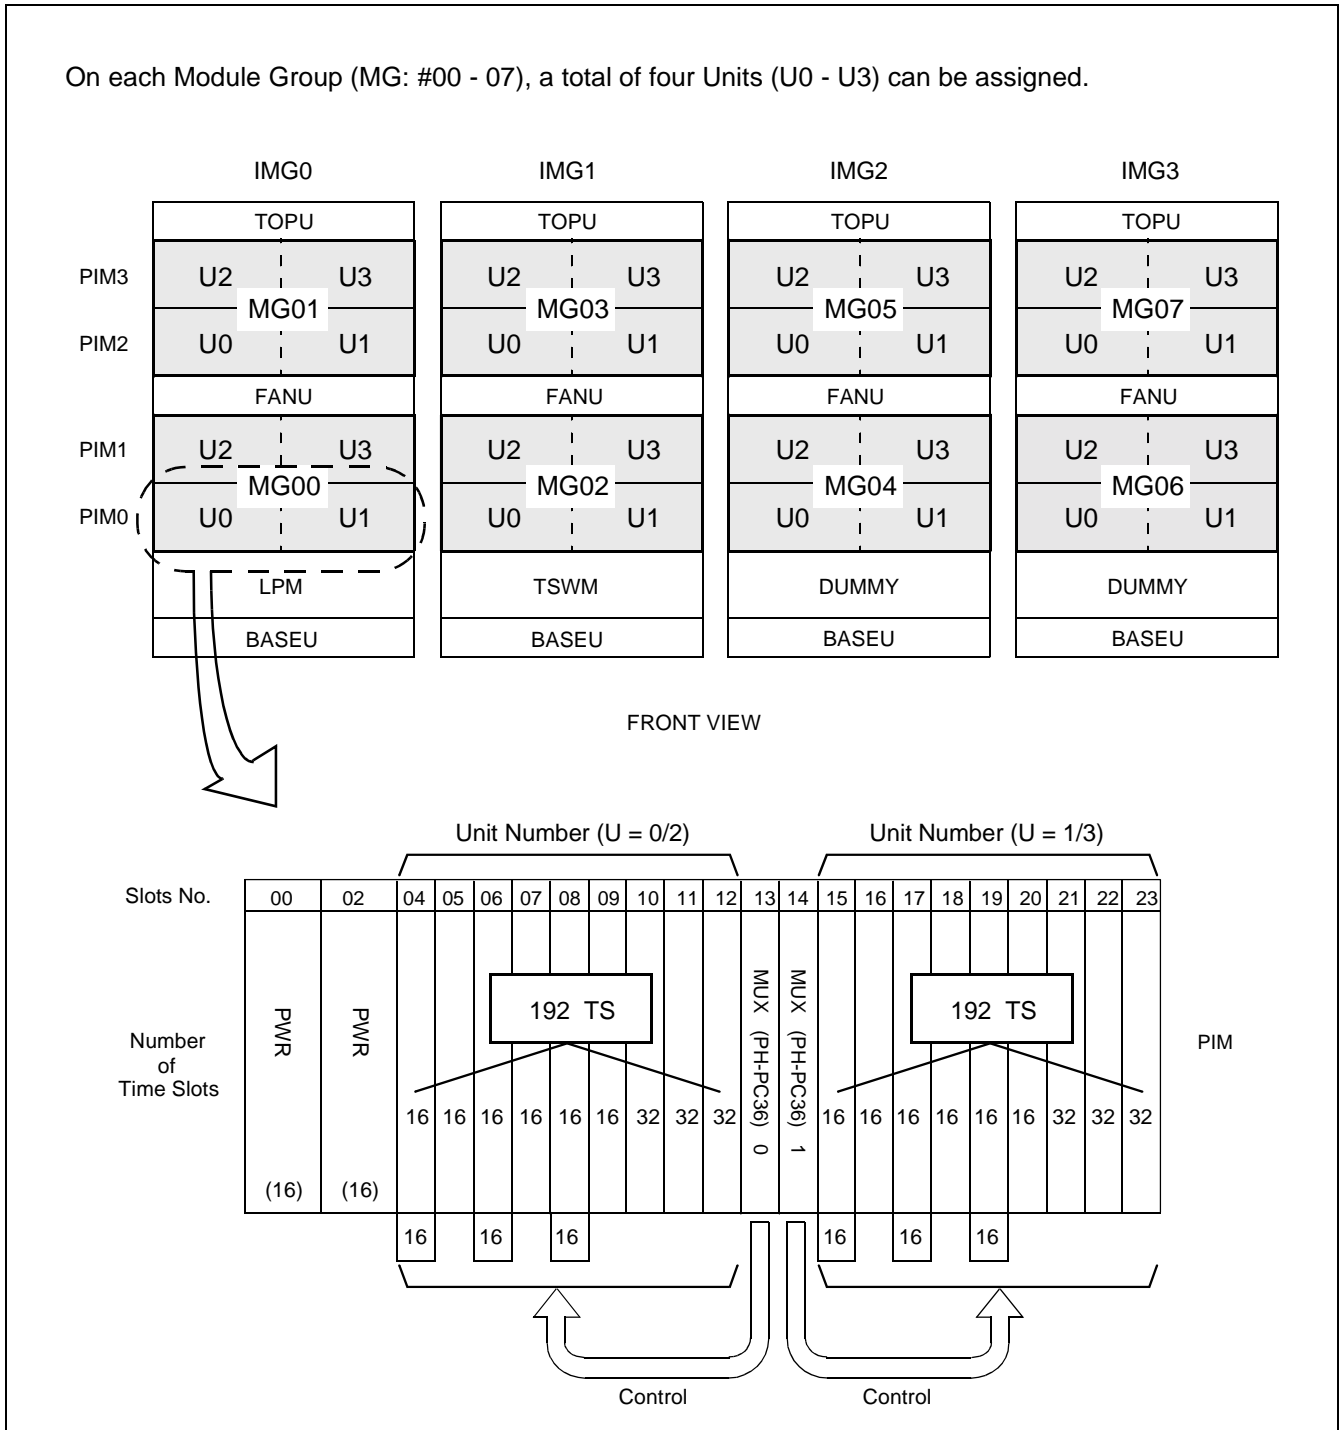

Figure 2-8 Unit Number Allocations
Figure 2-8, which represents a fully expanded system, explains the Unit (U) numbers. The numbers range from 0 to 3, and each unit represents the PIM universal slots, No. 04-12 (U 0/2) or No. 15-23 (U 1/3).